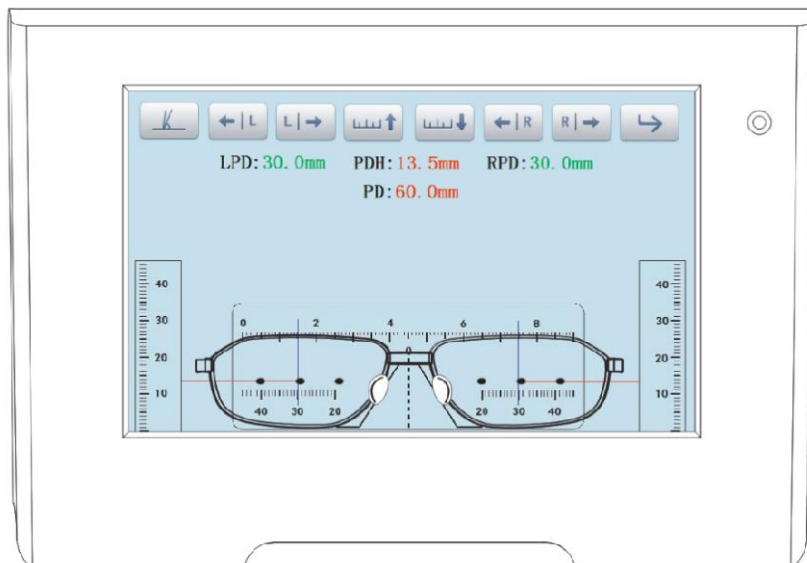

Figure 6.9 Place a marked frame glasses
1. Place a marked frame glasses as shown in figure 6.9